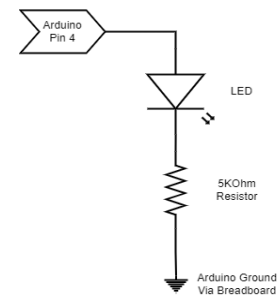

Figure 4: Digital output circuit. Here the pin is supplying current.
1. Now, let's interface the Arduino with our breadboard. First, we will use digital pin 4 as a current source by building the circuit in Figure 4